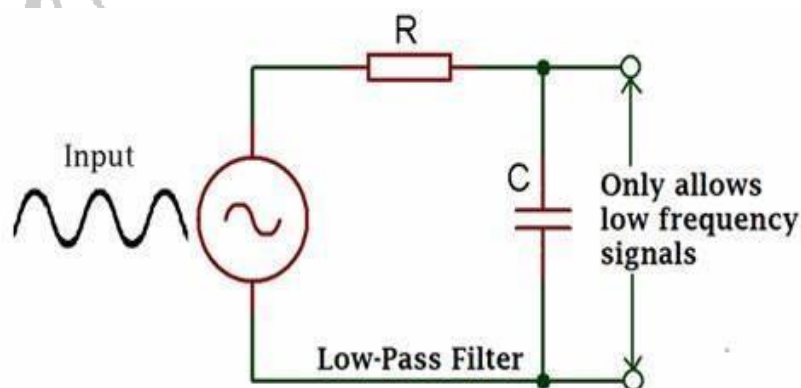

Fig 15.1 : Low pass filter
1. Connect the circuit on breadboard as shown in figure 15.1